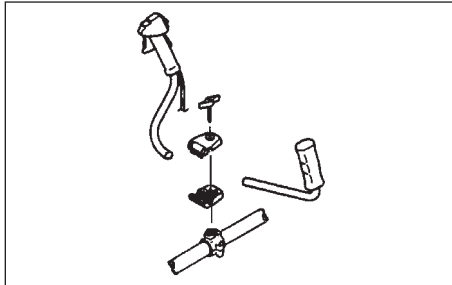

Fig. 1-3E
Installation handle for CG40EJ (T) (Fig. 1-3E, 1-3F)
Montage de la poignée-arceau pour le CG40EJ (T) (Fig. 1-3E, 1-3F)
Installazione del manubrio per CG40EJ (T) (Fig. 1-3E, 1-3F)
Anbringen des Griffs am CG40EJ (T) (Fig. 1-3E, 1-3F)
Instalación del manillar para CG40EJ (T) (Fig. 1-3E, 1-3F)
Montering av handtag på CG40EJ (T) (Fig. 1-3E, 1-3F)